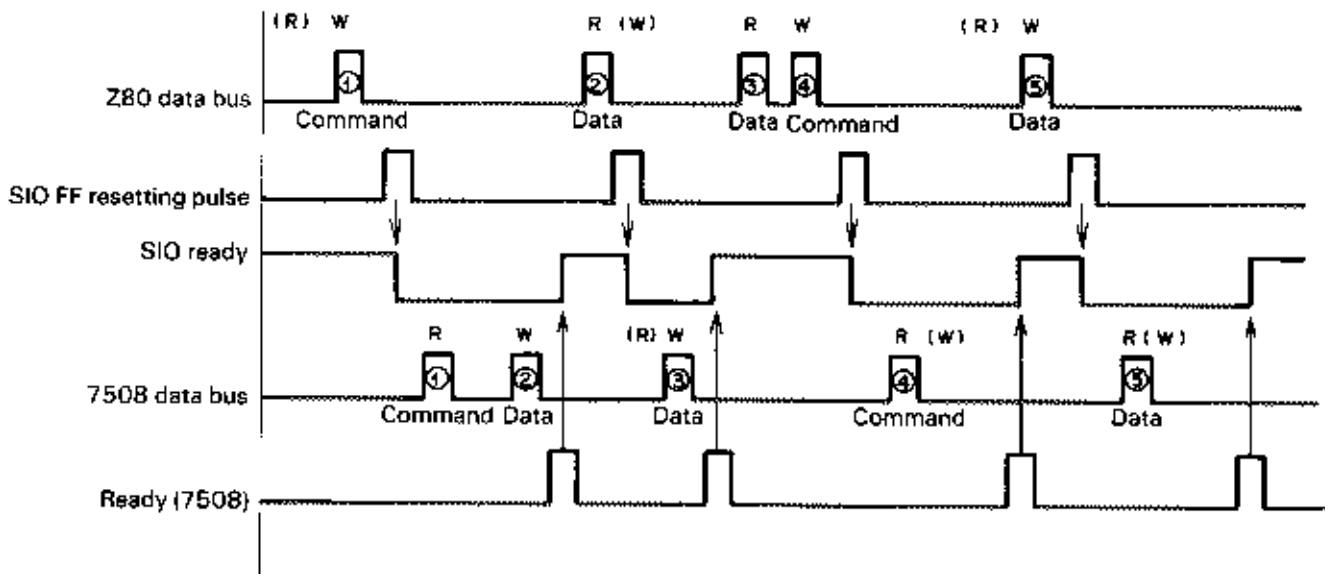

Fig. 2-27 Main CPU and Sub-CPU Interfacing Signal Timing
- Fig. 2-27 illustrates the interfacing operation between the main CPU and sub-CPU 7508 via the gate array.